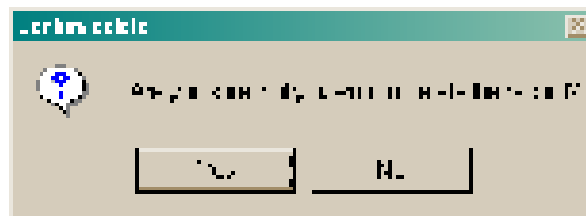

Figure 5.34 Deletion confirmation message.
2. Click the Delete button. A confirmation message similar to the sample in Figure 5.34 is displayed.